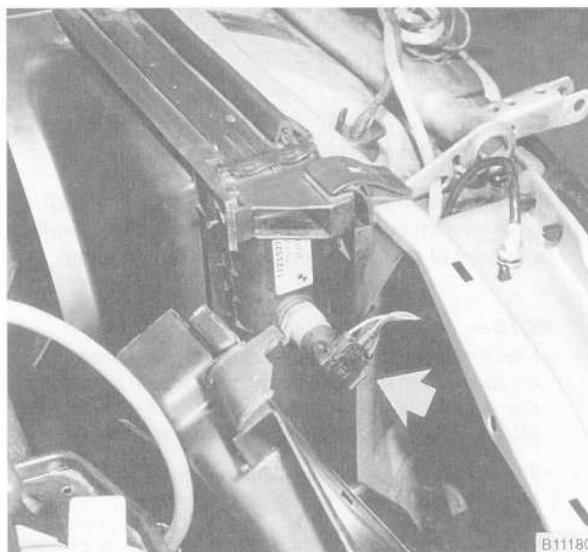

Fig. 18. Auxiliary radiator cooling fan temperature switch (arrow).
5. Disconnect harness connector from auxiliary fan temperature switch. See Fig. 18.